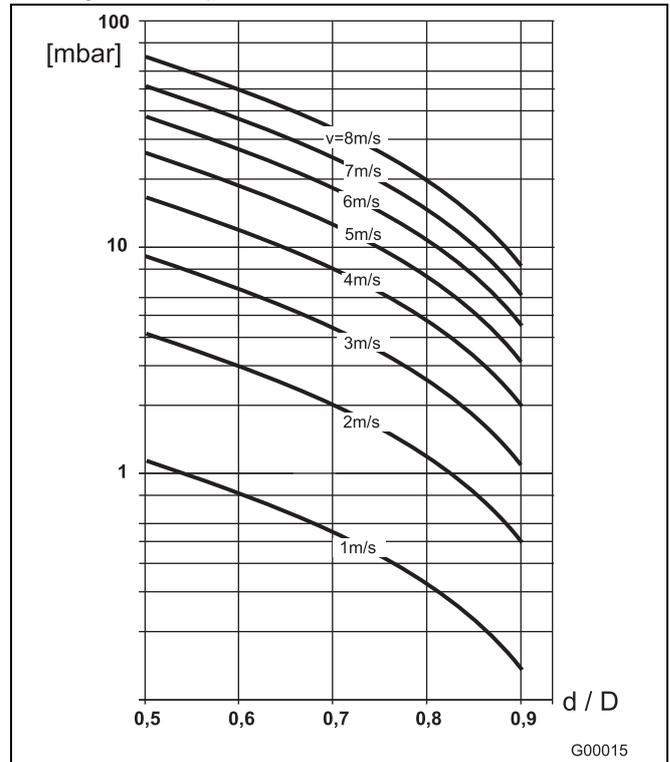

Fig. 23
2. Determine the flow velocity based on the flow range nomograph (Fig. 23).
3. Read the pressure drop on the Y-axis in Fig. 23.